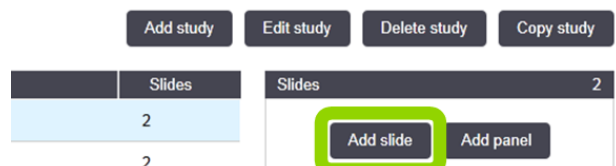

Figure 41: Add slide button
- Highlight your study and click **Add slide** (see Figure 41).